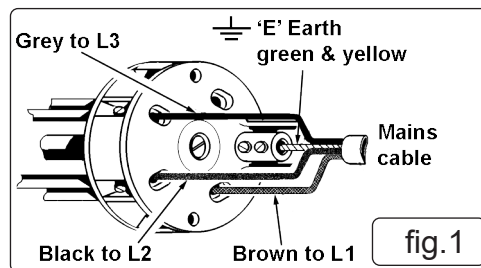

fig.1
1.2.1. This product must be fitted with a 3 phase plug wired as illustration in (fig 1), wired to an appropriately fused supply.
- **WARNING! IT IS ESSENTIAL TO OBSERVE ANTI-CLOCKWISE (fig.1) PULLEY DIRECTION ON INITIAL START UP. IF CLOCKWISE OBSERVED, STOP IMMEDIATELY AND CONSULT A QUALIFIED ELECTRICIAN TO INVERT 2 PHASES.**